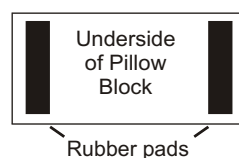

Fig. 7
- Cut rubber pads in half and apply to underside edges of each pillow block (see Fig. 7).